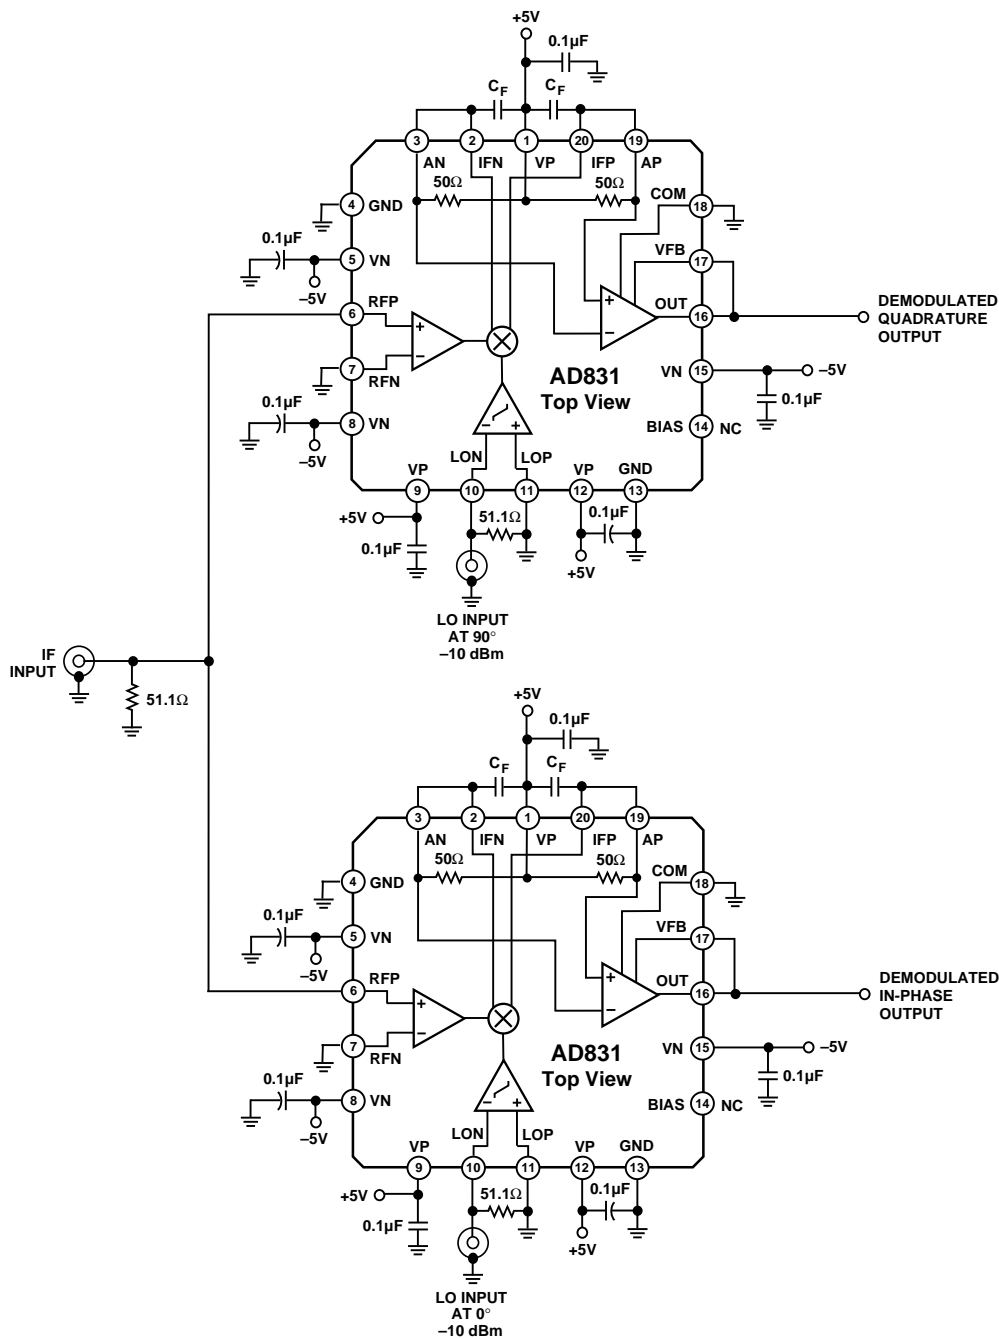

Figure 27. Connections for Quadrature Demodulation
Two AD831 mixers may have their RF inputs connected in parallel and have their LO inputs driven in phase quadrature (Figure 27) to provide demodulated in-phase (I) and quadrature